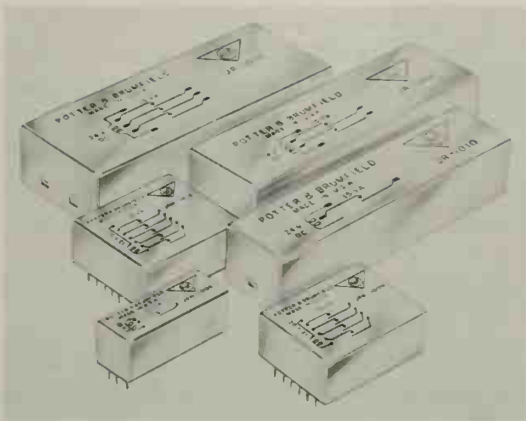

Fig. 5-28. Reed relays in printed circuit cases. (Potter & Brumfield)
6. May be used in printed circuits (see Fig. 5-28).